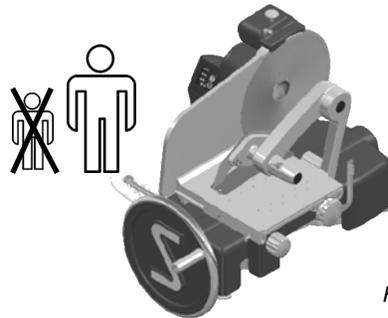

Fig.23
- Do not allow the slicer to be used by children or untrained persons (Fig.23).